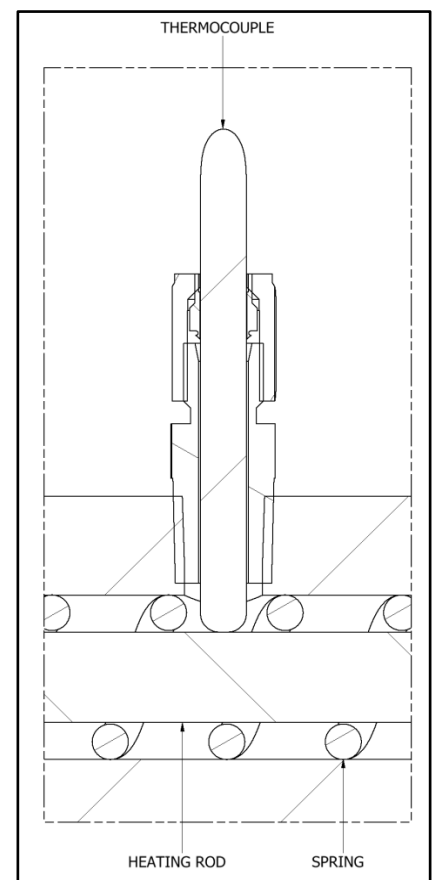

Figure 27: Thermocouple Positioning
4. Slide the Nut and the Ferrule over the Thermocouple and insert this assembly into the Connector Body until it comes into positive physical contact with the Heating Rod. Make sure the Spring does not prevent the Thermocouple from making contact with the Heating Rod. See Figure 27 for a visual.